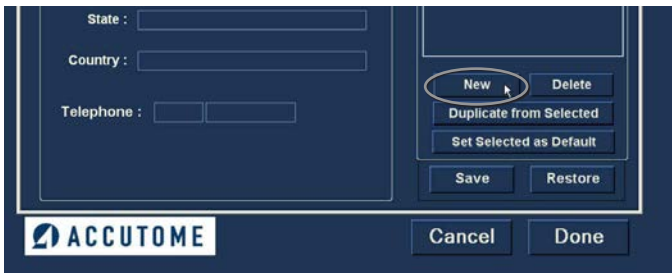

Figure 4.3 - Selecting “New” Facility
1. In the Facilities screen select “New” as shown in Figure 4.3.